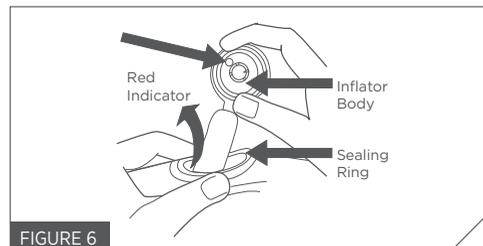
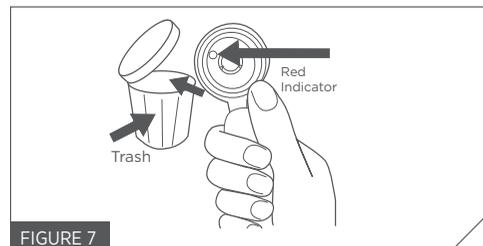

FIGURE 6
FIGURE 7
8. Gripping the inflator body, pull it and the cylinder out through the clear O-ring in the PFD (Fig. 6). Discard the used inflator body and cylinder (Fig. 7).